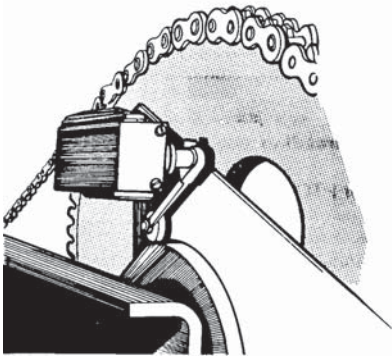

Figure 98 - LS-2 Delays Plunger Advance
6. Check stopping position of switch arm roller on cam. It should be on the high part of the cam (see Figure 98).
10. Repeat Steps 2 through 5 and step 8 until the switch arm roller is on the high part of the cam (see Figure 98).